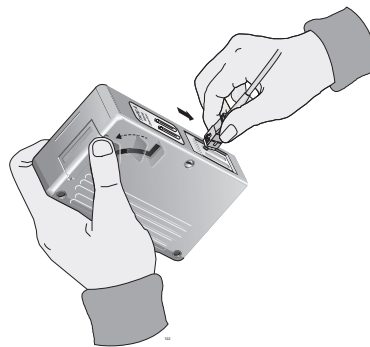

Figure 83. Rubbing the Ferrule Tip on the Cleaning Surface
1. With one hand, hold the cartridge cleaner and push the lever on the cleaning cartridge in the direction of the arrow to expose the cleaning surface, as shown in Figure 83.
2. Place the ferrule tip on the exposed cleaning surface and rub the ferrule in a downward direction, as shown in Figure 83.